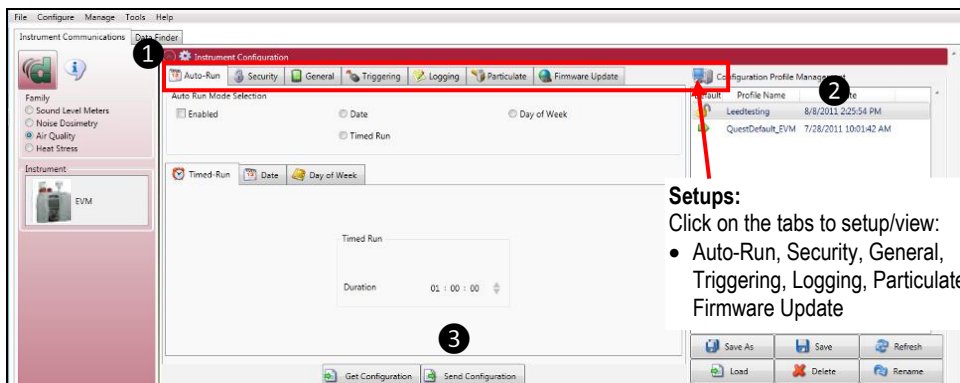

Figure 6-7: Saving and sending EVM setups
There are seven configurable EVM setup screens (see ① in Figure 6-7 below) in the setup page. With the EVM, you have the option to save the configurations either on the instrument and/or store the configurations in DMS.